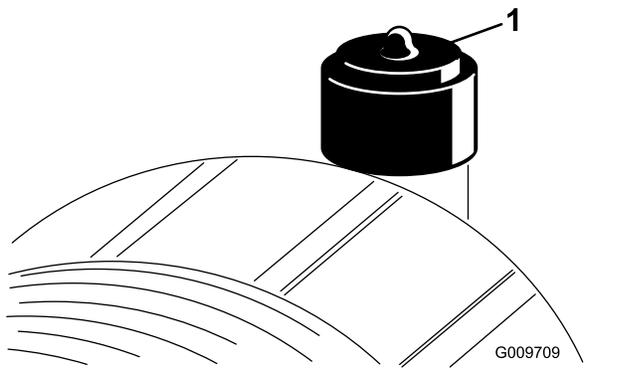

Figure 56
Service the air-cleaner element only when the restriction indicator (Figure 56) requires it. Changing the air cleaner element before it is necessary increases the chance of dirt entering the engine when you remove the element.
2. Reset the restriction indicator (Figure 56) if it shows red.